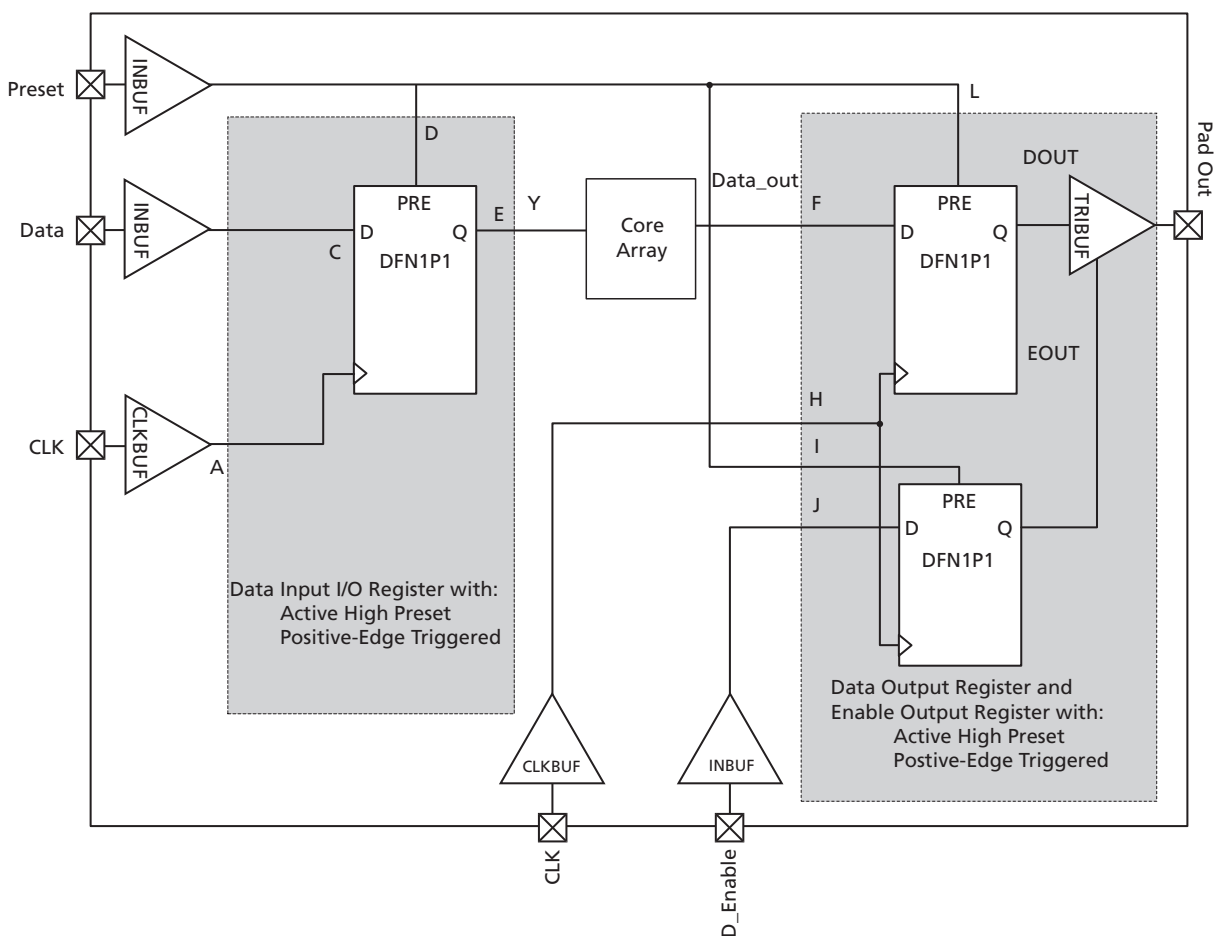

Figure 2-12 • Timing Model of Registered I/O Buffers with Asynchronous Preset
* See Figure 2-12 on page 2-41 for more information.